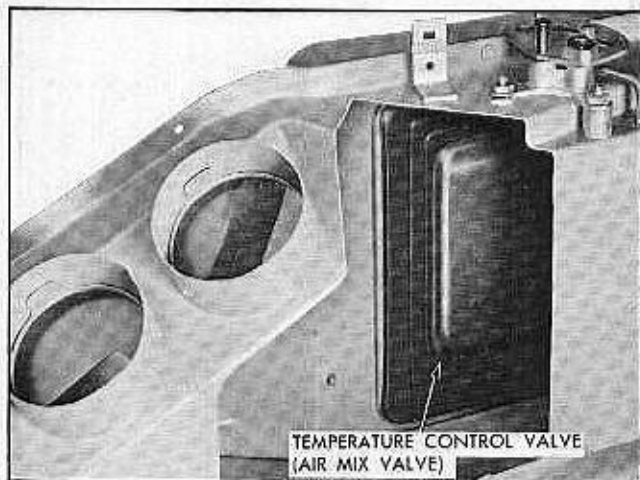

Fig. 1-20 Temperature Control Valve Crush to Heater Core
6. Shine a light through the defroster outlets and using a mirror in the heater outlet nozzle opening move bracket and cam assembly (with pin installed) so the rubber edge of valve just contacts the heater core flange. Continue to move this assembly in the same direction slightly to place a slight "crush" (approx.  $\frac{3}{32}$ ") on the rubber portion of the valve (Fig. 1-20).